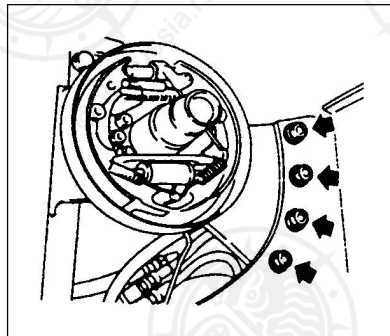

Fig.5-2
- 9) Remove bolts securing axle mounting bracket to frame.(see fig.5-2).